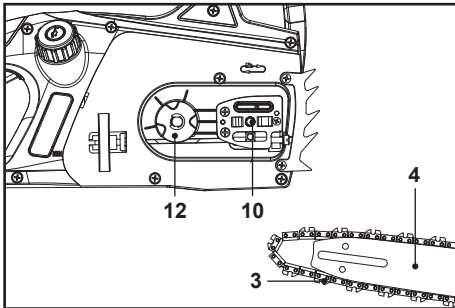

Fig. 1c
6. Align the guide bar (4) and saw chain (3) assembly with the drive sprocket (12) and bolt (10). Lay the saw chain around the drive sprocket (12) and then lower the guide bar (4) to install it to the bolt (Figs. 1c, 1d).